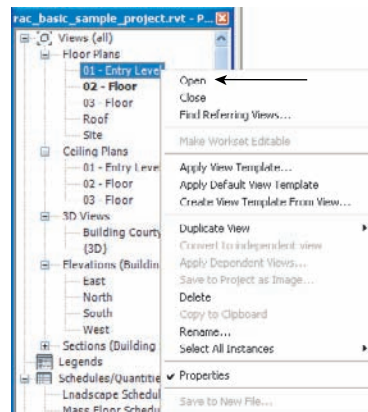

Figure 3.48
2. In the Project Browser, verify that the 01 – Entry Level floor plan is active. (The text will be bold if it is the active view.) If it is not active, then either double-click the view name or right-click it and choose Open (Figure 3.48).